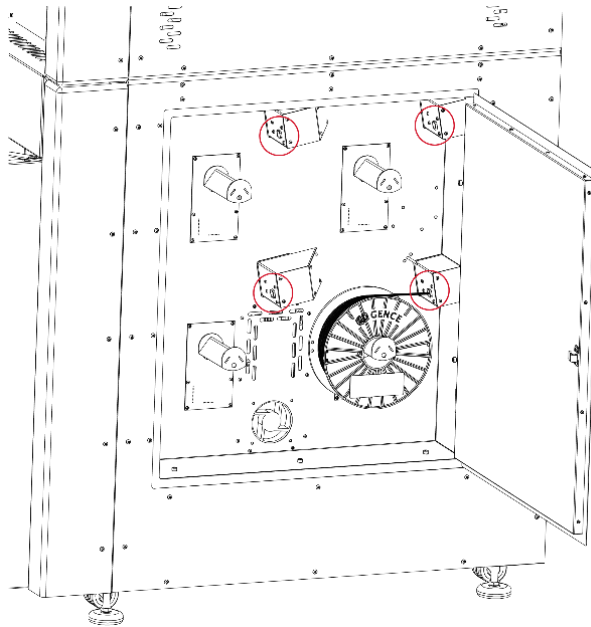

Fig. 68 Location of the entrance holes for the filament feed module
6. Place the material in the appropriate material bay in the material chamber. Cut the end of the material at an angle of 45° and straighten the end. Slide and gently push the end of the material into the input opening of the filament feed mechanism (Fig. 68).